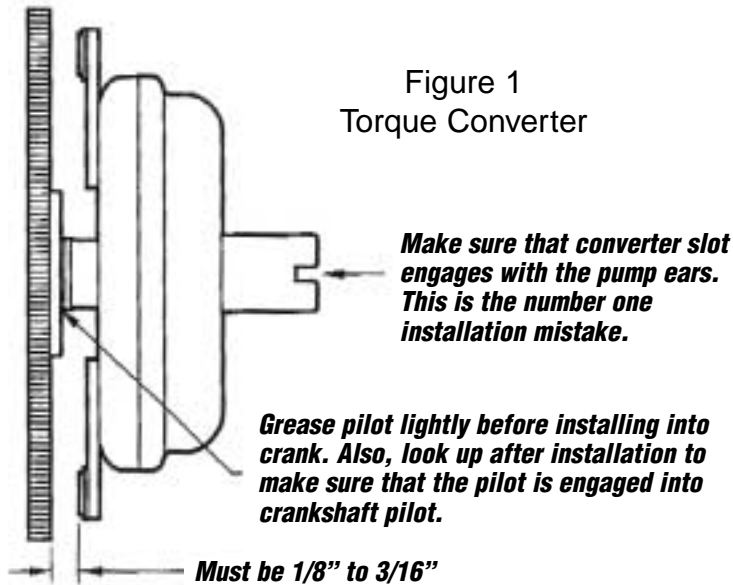

Figure 1
- 4.** With the transmission secured in place slide the torque converter forward against the flexplate a minimum of 1/8" to a maximum of 3/16". (Fig. 1) Spin the torque converter, it should spin freely. If it does not the converter is probably not fully engaged into the front pump. Now bolt the torque converter to the flexplate.